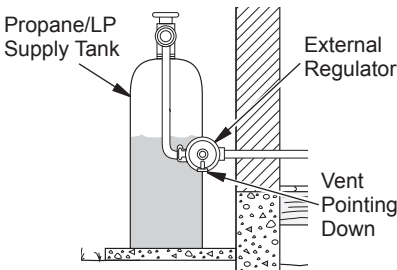

Figure 10 - External Regulator With Vent Pointing Down
For propane/LP gas, the installer must supply an external regulator. The external regulator will reduce incoming gas pressure. You must reduce incoming gas pressure to between 11" and 14" of water. If you do not reduce incoming gas pressure, heater regulator damage could occur. Install the external regulator with the vent pointing down as shown in Figure 10. Pointing the vent down protects it from freezing rain or sleet.
1. Remove front panel (see Figure 10, page 9).